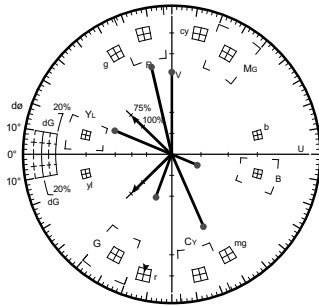

Fig. 4-28
- Repeat adjust from (33).7.3.(B).1. to (34).7.3.(B).2. until both Chrominance Phase and Gain are adjusted to proper position as shown in Fig. 4-28 and Table 4-39.